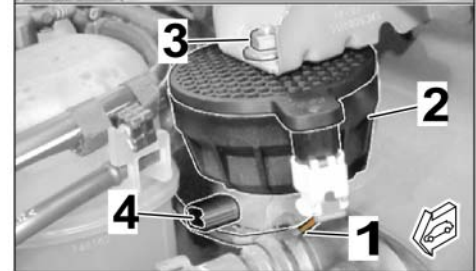

Figure 20
2.3 Install engine noise pulse sender ( $\Rightarrow$  Figure 20)
2.3.1 Route branch with connector (2-pin) to the engine noise pulse sender holder (⇒ *Figure 20-top*).
Secure engine noise pulse sender, facing downwards, in the plenum panel holder using M6 hexagon collar nut (1 x) (⇒ *Figure 20*)